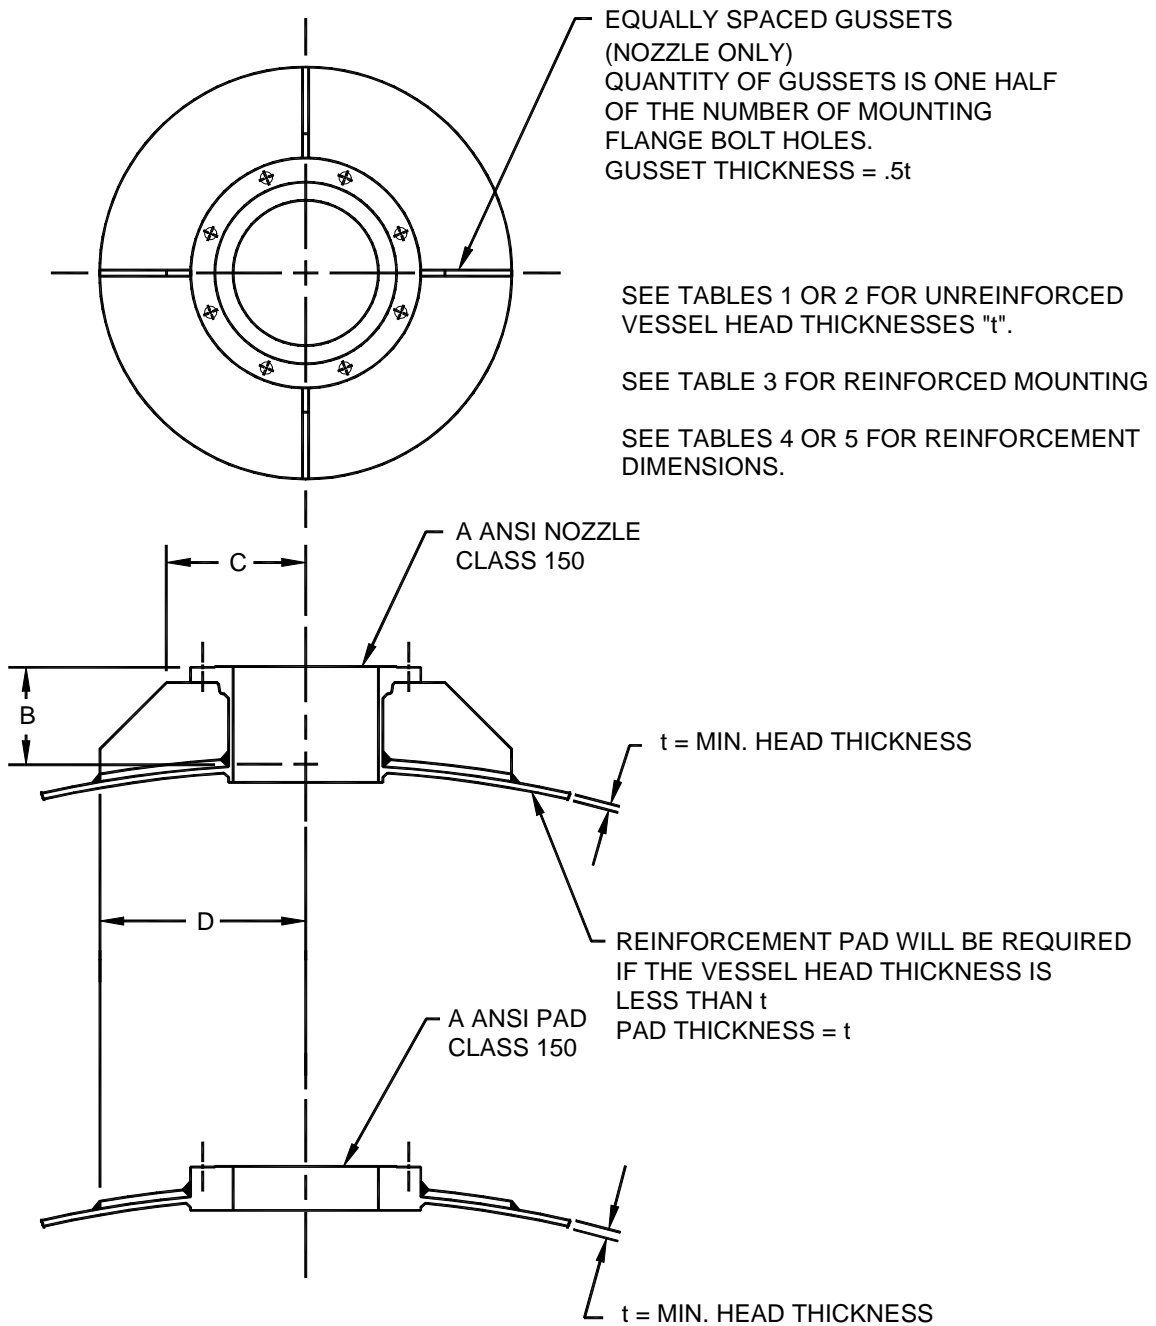

Figure 2: Models 30DTN, 40DTNS, 40DTNC, 40DTN Mounting, Nozzle/Pad
- If reinforcement is applicable, refer to *Tables 4 and 5, below and Figure 2, page 6* for proper reinforcement dimensions.